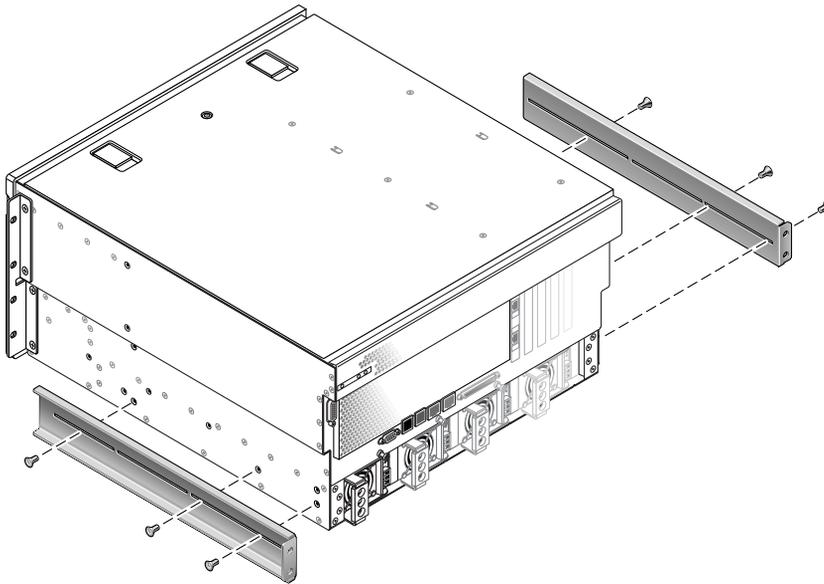

FIGURE 3-17 Attaching the Rear Mount Support Brackets
5. Install the rear mount support brackets at the rear of the server, extending the rear mount support brackets to the measured depth of the rack (FIGURE 3-17).